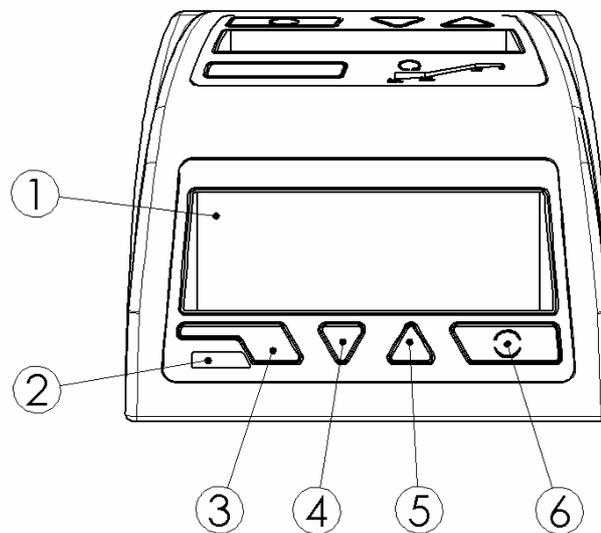

Fig 11: Control Panel Excalibur Sport with Programmable Display Unit
The programmable side of the programmable display consists of the following elements (Fig 11):
At the same time the Programmable Display Unit (Fig 11: Control Panel Excalibur Sport with Programmable Display Unit, item 1) shows for a few seconds: